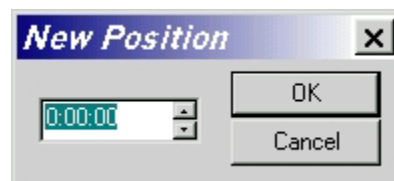

Figure 11
- : Opens the New Position window (See Figure 11)